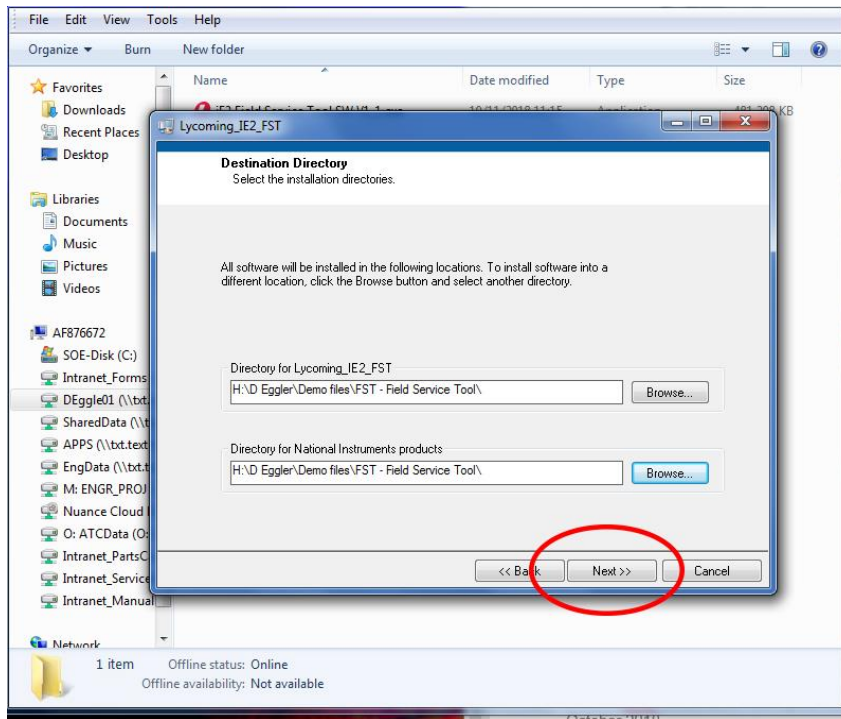

Figure 13
13. Choose the folder location for the software in the Destination Directory (Figure 13), then click the **Next** button.